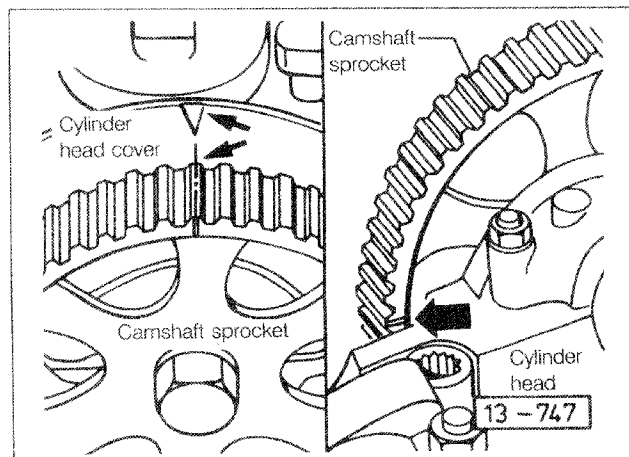
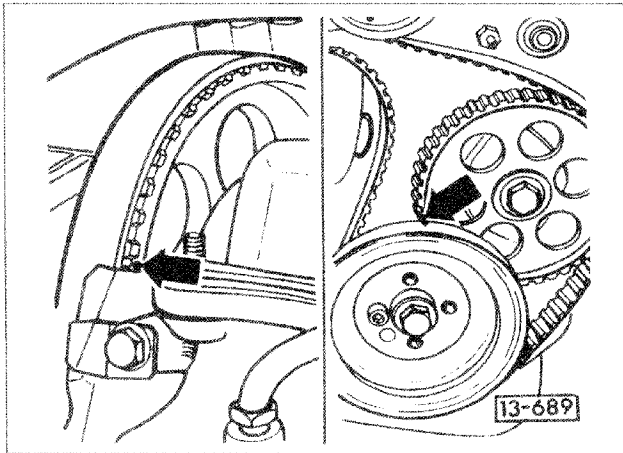
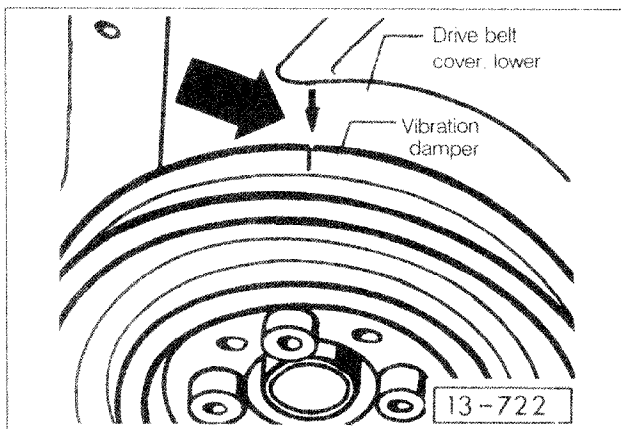

Fig. 4-2. Camshaft timing marks on PL (16-valve) engine with cylinder head cover on (left) and off (right).
Fig. 4-3. Drive belt timing marks (arrows) for camshaft and intermediate shaft on 8-valve engines.
Fig. 4-4. Crankshaft timing marks on vibration damper and lower drive belt cover on PL (16-valve) engine.
1. Use a socket on the center bolt to rotate the camshaft sprocket by hand until the timing marks are aligned. The camshaft timing marks for PL (16-valve) engines are shown in Fig. 4-2. The camshaft timing marks for the 8-valve engines are shown in Fig. 4-3.
3. Rotate the crankshaft and the intermediate shaft by hand until the timing marks line up. The crankshaft and the intermediate shaft timing marks for 8-valve engines are shown above in Fig. 4-3. The crankshaft timing marks for PL (16-valve) engines are shown in Fig. 4-4.